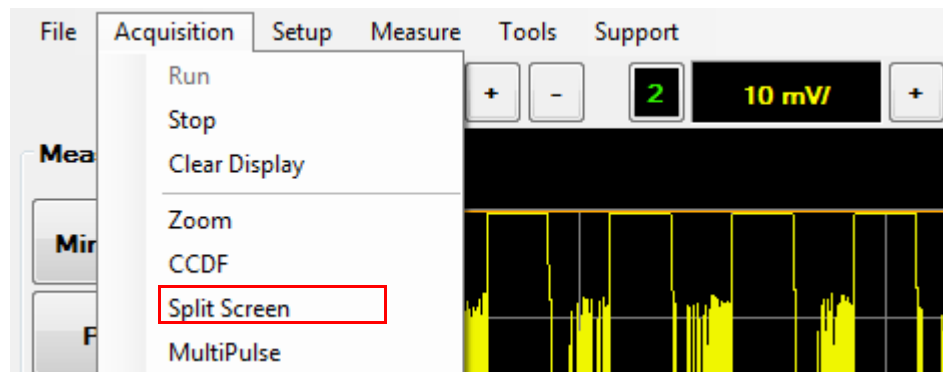

Figure 2-80 Split Screen selection in the Acquisition menu
- 1 Select **Acquisition > Split Screen** on the toolbar as shown in Figure 2-80.